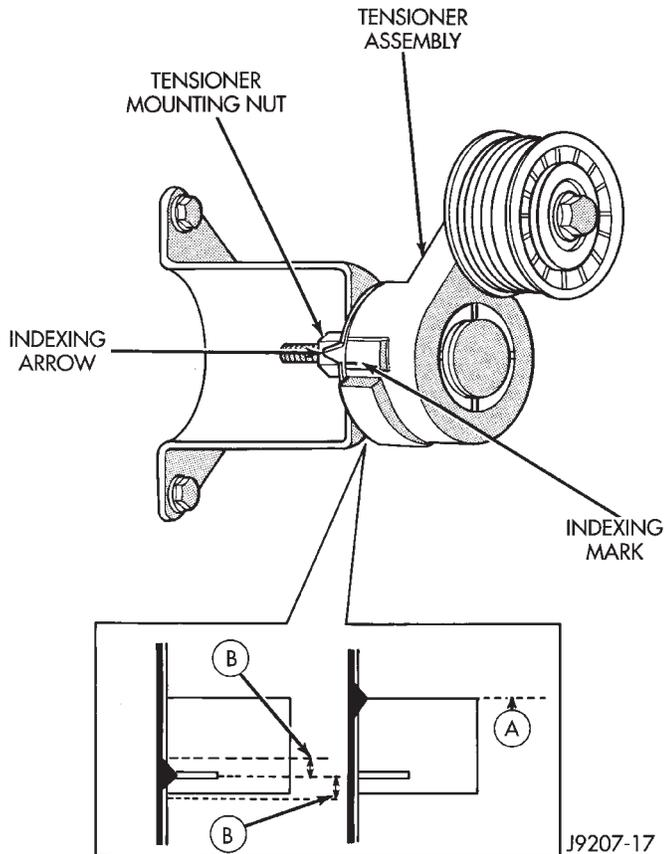

Fig. 67 Belt Tensioner/Pulley Assembly—5.2/5.9 Engines
NOTE: On 5.2/5.9L engines, the tensioner is equipped with an indexing arrow (Fig. 67) on back of tensioner and an indexing mark on tensioner housing. If a new belt is being installed, arrow must be within approximately 3 mm (1/8 in.) of indexing mark (point B-) (Fig. 67). Belt is considered new if it has been used 15 minutes or less.
NOTE: A used belt should be replaced if tensioner indexing arrow has moved to point-A (Fig. 67). Tensioner travel stops at point-A.
(1) Remove accessory drive belt. Refer to Belt Replacement/Adjustment in this group.
(2) Disconnect wiring and secondary cable from ignition coil.
(3) Remove ignition coil from coil mounting bracket (two bolts). Do not remove coil mounting bracket from cylinder head.
(4) Remove tensioner assembly from mounting bracket (one nut) (Fig. 67).
(5) Install drive belt. Refer to Belt Removal/Installation in this group.
(6) Check belt indexing marks (Fig. 67).